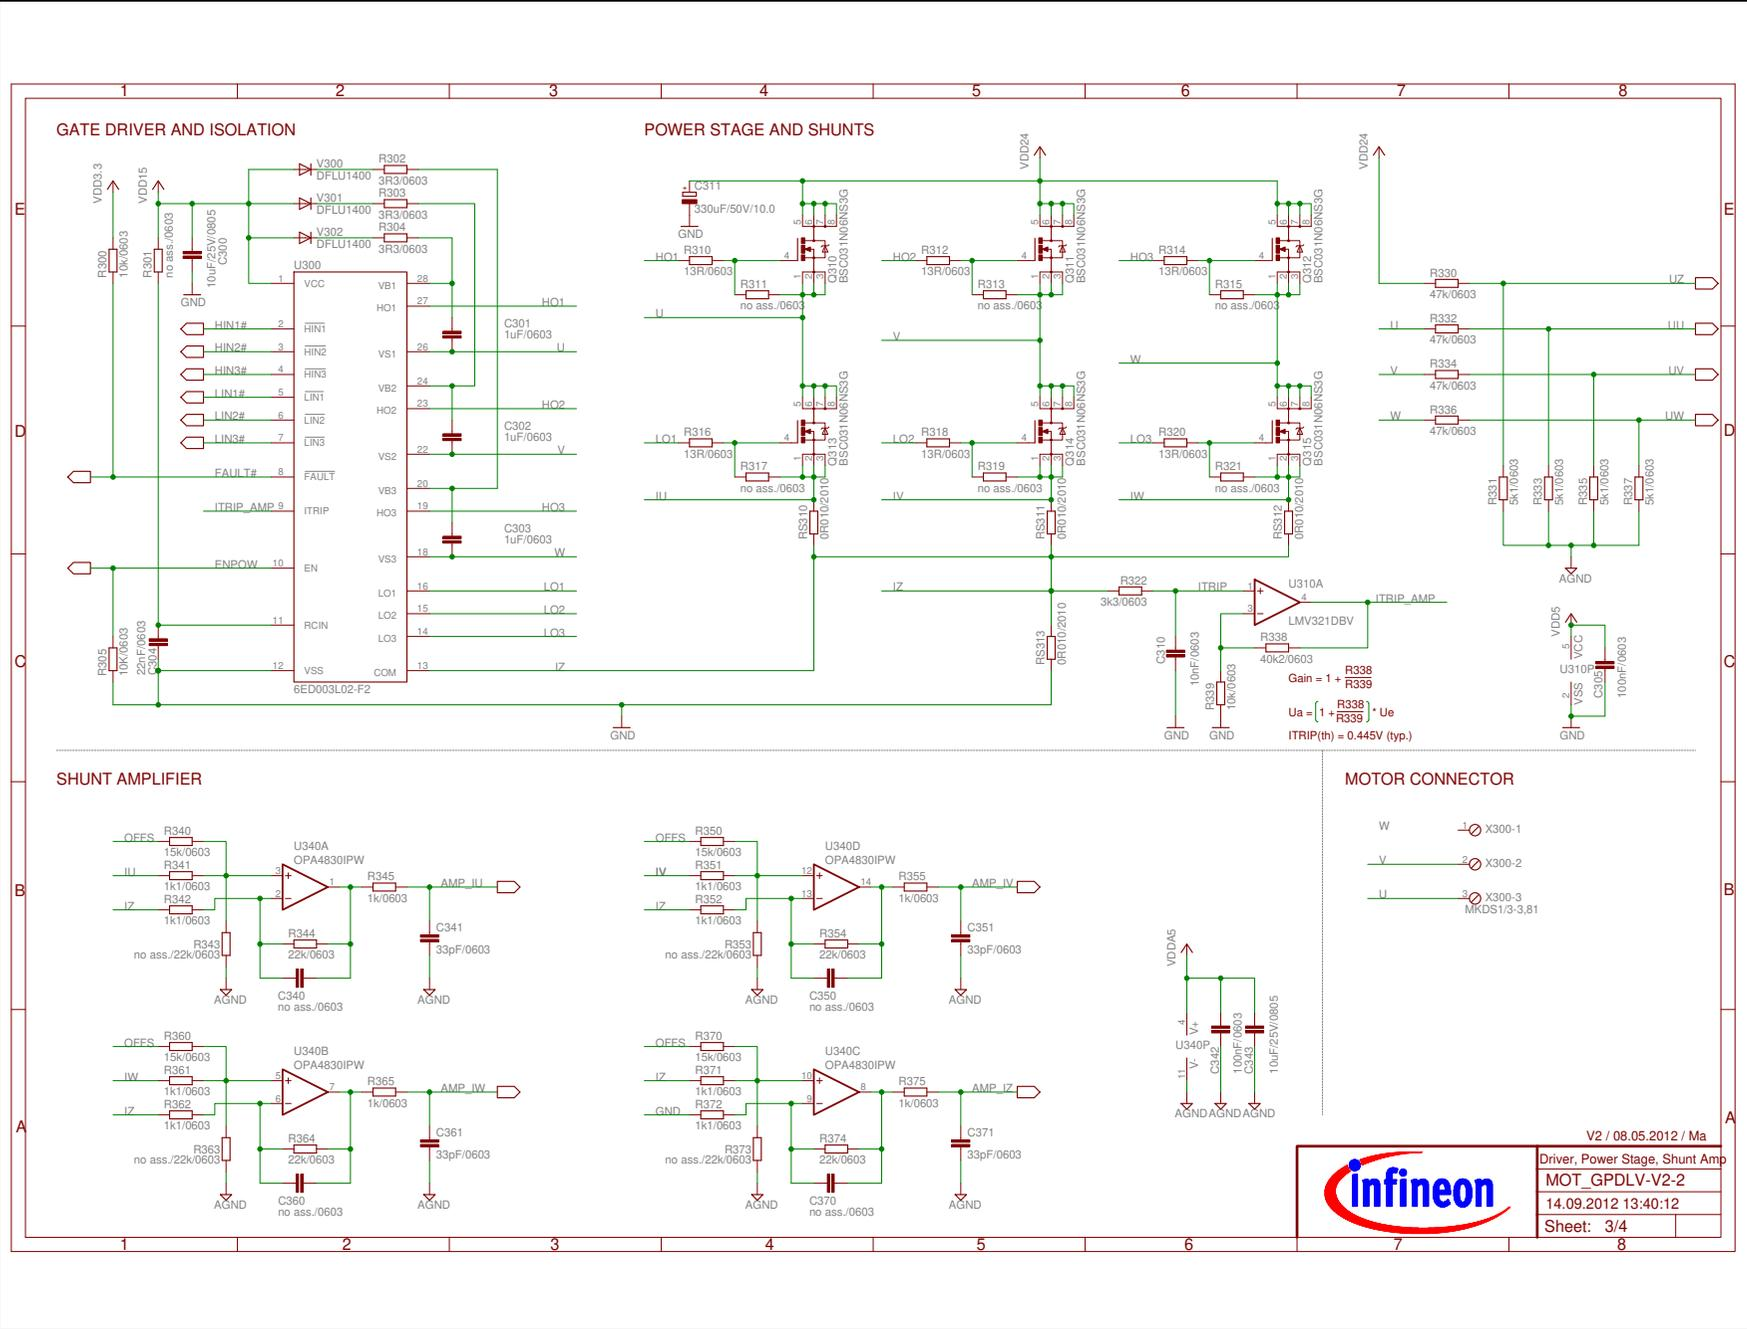

Figure 15 Gate Driver, Power Stage, Shunt Amplifier, Motor Connector
- Figure 15: Gate Driver, Power Stage, Shunt Amplifier, Motor Connector